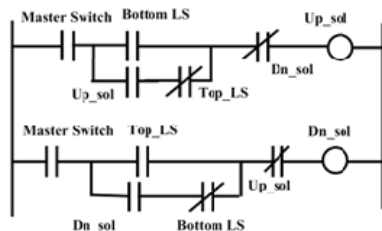

Fig. 20.2 An RLL program for the industrial stamping process
**S3.4** A. What would happen in the process controlled by the program shown in Fig. 20.2 if top/bottom Limit switch is stuck closed/open?
B. What would happen in the process controlled by the program shown in Fig. 20.2 if the hydraulic pump pressure becomes too low to move the RAM?